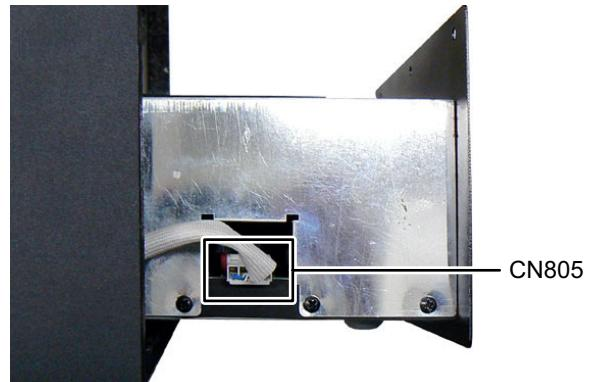

Fig.3
(3) Pull out the Power amp unit for half way; disconnect the connector wire from Subwoofer speaker connected to connector CON805 of the Power amp board. (See Fig.3)